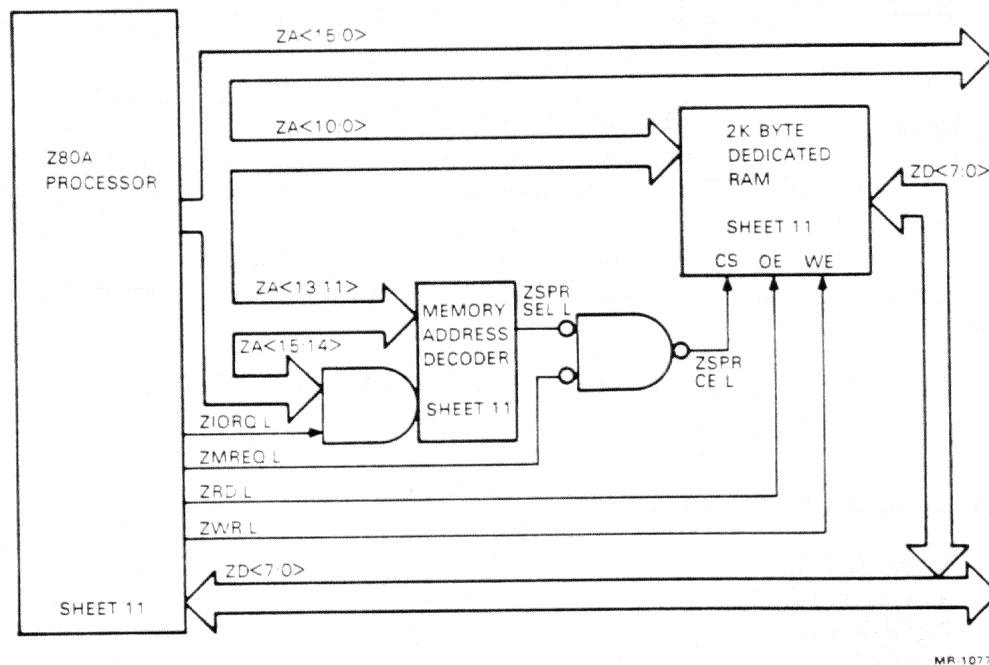

Figure 4-16 2K Byte Dedicated RAM Block Diagram
4.4.5.4 2K Byte Z80A Dedicated RAM (Static) – The Z80A processor's dedicated memory is a $2K \times 8$ bit static RAM that is accessed by the Z80A via address bits $ZA<10:0>$. Data is written into or read from the memory via data bits $ZD<7:0>$. Figure 4-16 is a block diagram that shows the relationship of the 2K byte dedicated RAM to the Z80A address bus, data bus, and memory control logic.